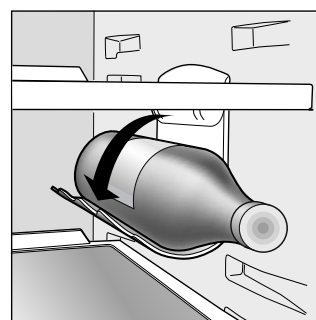
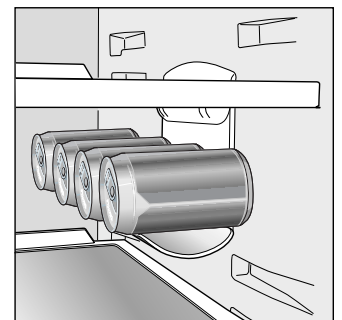

Fig. 2
Fig. 3
The side bottle rack can be used either for storing a bottle (Fig. 2) or several cans (2-4) placed horizontally (Fig. 3). If not in use, the bottle/can rack can be tipped up and away to make more room inside the refrigerator.
- The defrost drain is clear from any blockage (see fig.2).